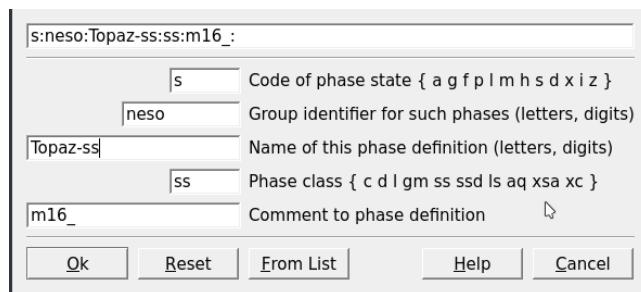

Figure 3.11: Datafields for creating a Phase record.
- Select the Topaz-OH record and click **Clone a new record** in Panel 1. Fill the parameters listed in Figure 3.11.